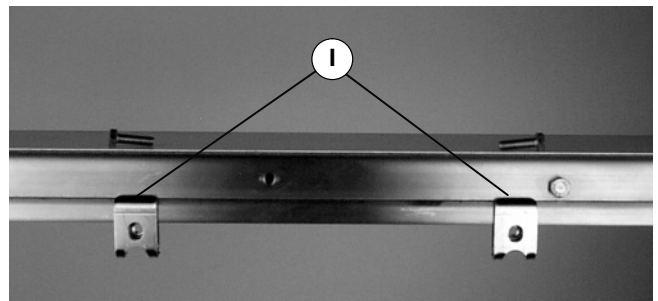

Figure 3
2. Position clips (I of Figure 3) as shown.